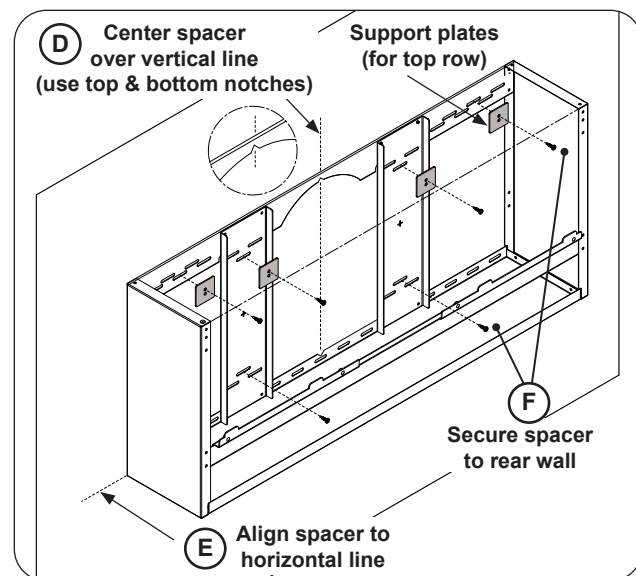

Fig. 13-2 Install Fire Magic spacer (36" shown)
4. Carefully place and hold the spacer over the two marked lines. Center the spacer to the vertical line (using the notches), and align the bottom of the spacer to the horizontal line. See Fig. 13-2, D-E.
5. Using appropriate mounting hardware for the rear wall construction, secure the spacer into the rear wall (see Fig. 13-2, F).